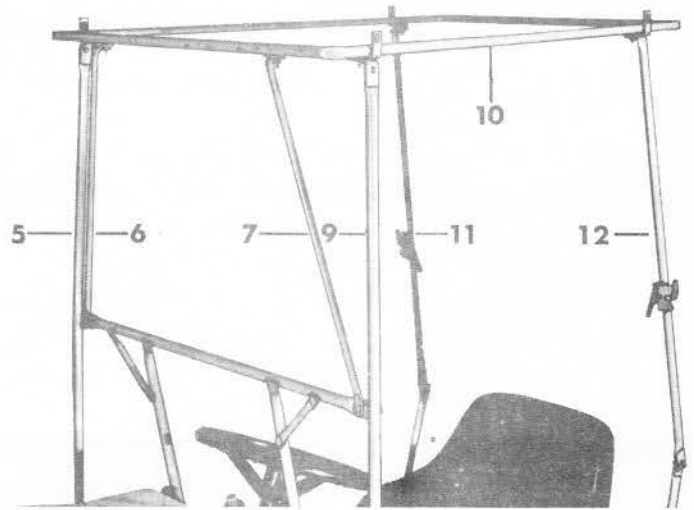

FIGURE 14
STEP 13: SEE FIGURES 14 & 14-A: